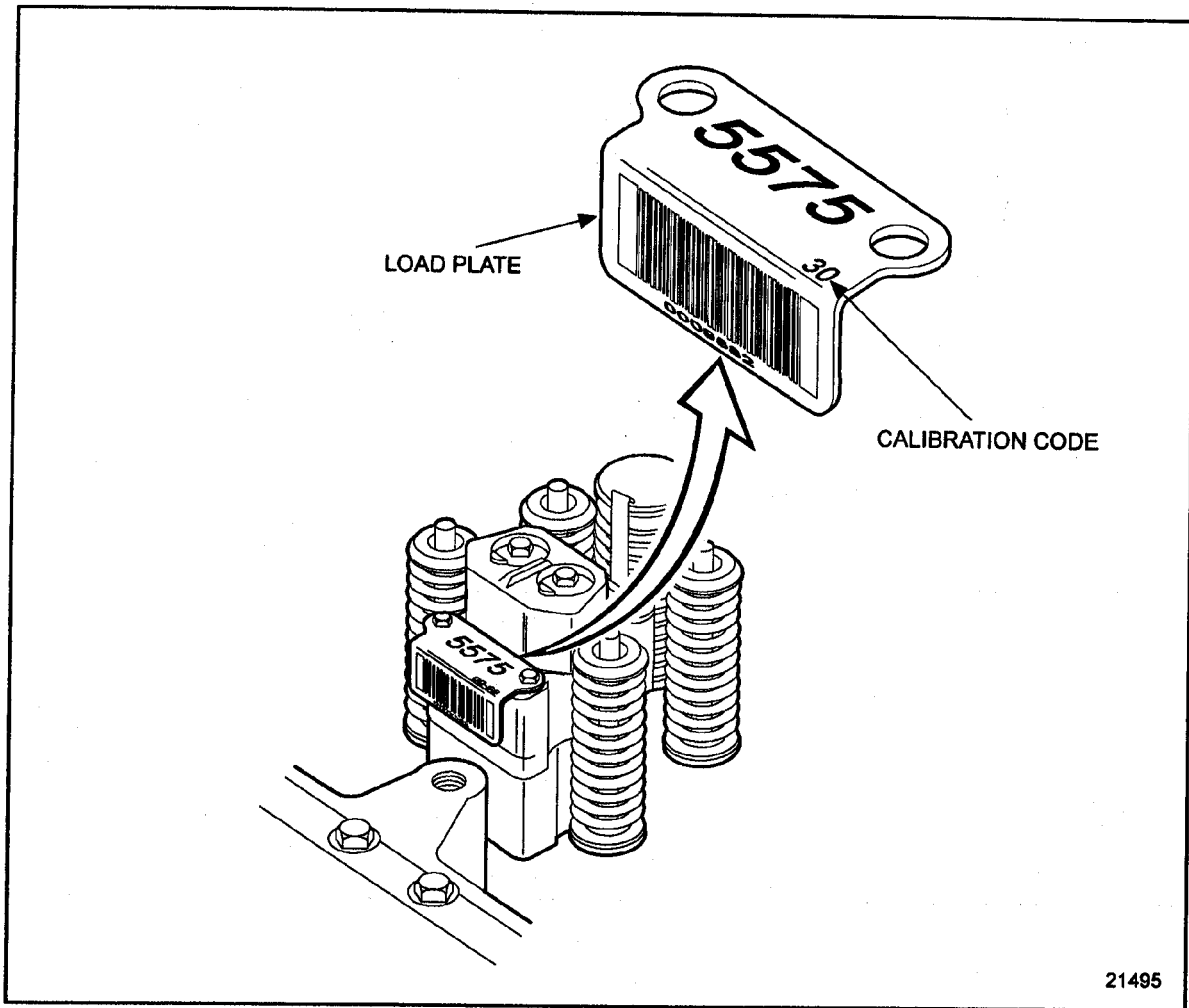

Figure 16-1 Injector Calibration Code Location
2. Record the injector calibration code of each injector noting the cylinder number; see Figure 16-1.
- [a] If the calibration code on the display is different then the calibration code on the suspect injector for that cylinder, the injector setting must be repaired, see Figure 16-1; refer to section 16.3.1.
Injector calibration and bar codes may be absent from the load plates on first-run production DDEC III/IV injectors 5235575, 5235580, and 5235550. The correct calibration code for these units is "01". Load plates on current DDEC III/IV injectors include the required calibration or bar code information. See Figure 16-1.